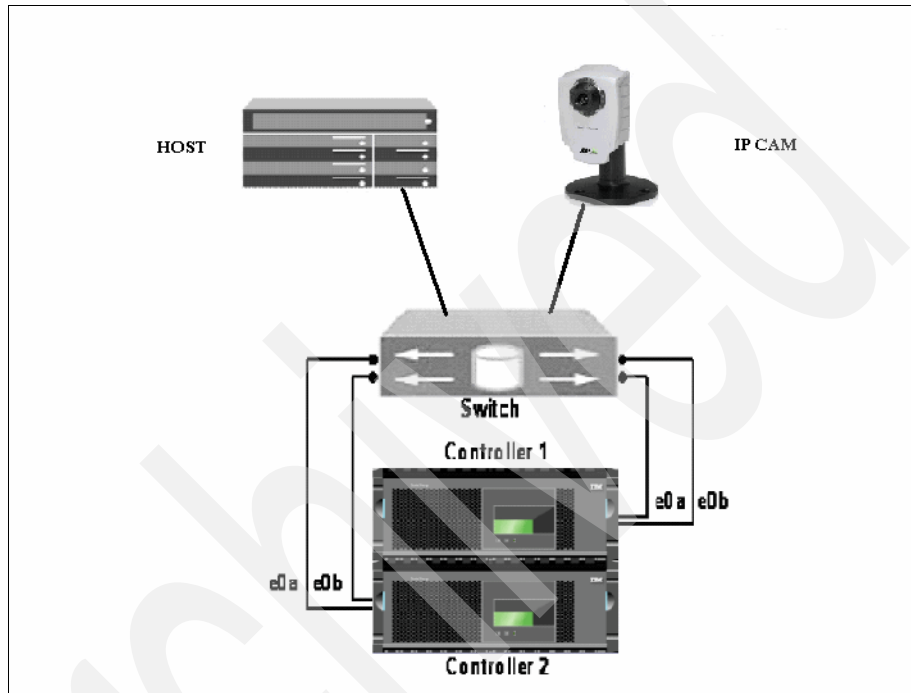

Figure 6-2 DVS environment using iSCSI topology
In a SAN environment, we use a FCP topology and the media platform is attached to a N series storage system through HBA and fibre switches. We work with some high availability (HA) resources and we discuss those resources through this chapter. Figure 6-2 shows a DVS environment using iSCSI topology.